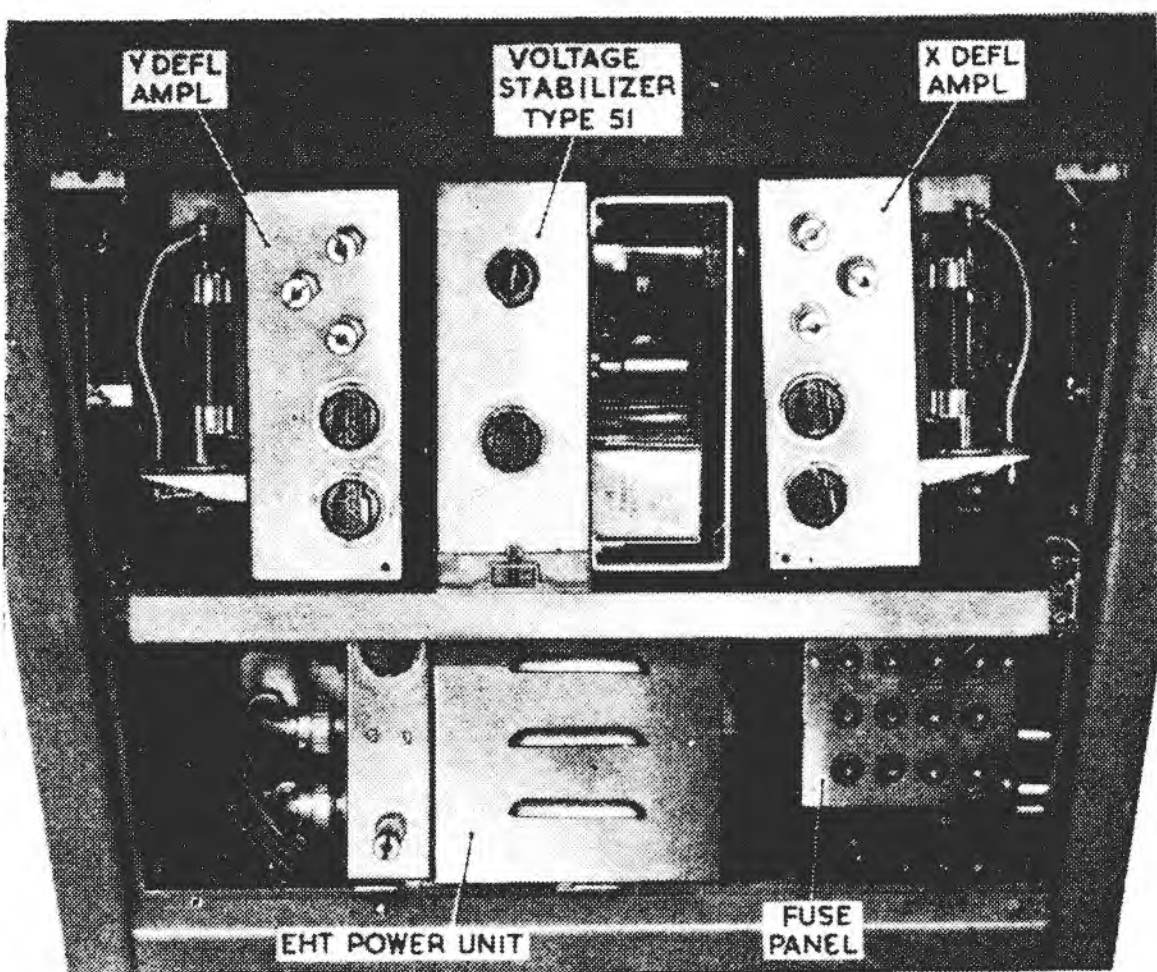

Fig. 1. Location of voltage stabilizer Type 51 at front of console
1. The unit described in this chapter is the *stabilizer, voltage, Type 51* (Stores Ref. 10D/18642, which forms part of the fixed-coil PPI display console (console Type 64). Fig. 1 is a front view of the lower part of the console with the panel removed, showing the voltage stabilizer in position between the two deflection amplifiers.
4. The unit is built on a 13½ in. × 8¼ in. × 3¼ in. chassis, and, as fig 1 shows, it is mounted on its side between the deflection amplifiers, on the deflection amplifier mounting tray. It is possible to obtain access to all parts of the unit without switching off by removing the lower front panel of
the console, pulling the deflection amplifier mounting tray right forward on its runners, and hinging the two deflection amplifiers outwards. If the unit is to be removed entirely, however, it is necessary to switch off the console and remove all connectors attached to the stabilizer; the single captive screw visible at the lower middle of the unit in fig. 1 may then be loosened and the whole unit removed upwards and outwards.